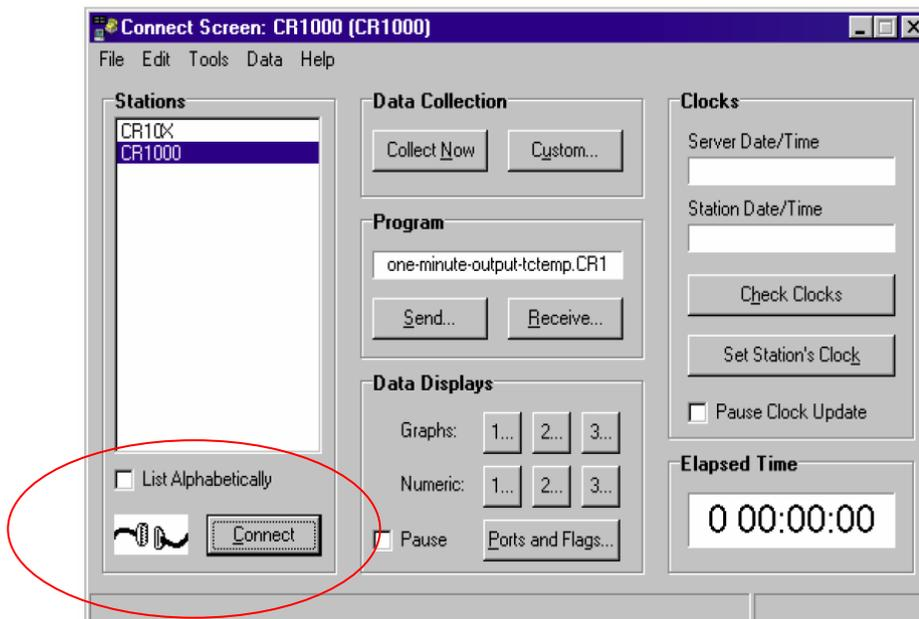

Figure 3. Data logger Connection Screen
- The CR10X data logger connection screen window will open up and request you to select a station. (See Figure 3.)